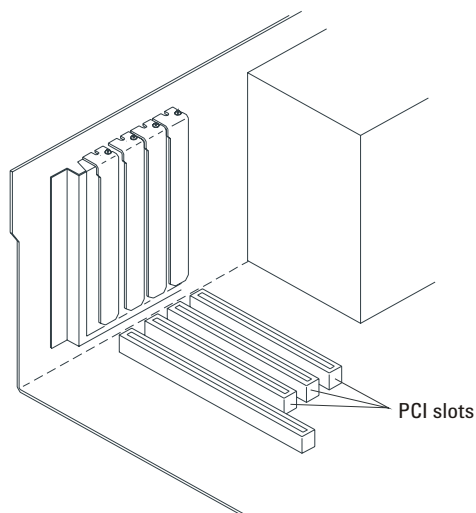

Figure 4-2 **Locating a PCI bus Expansion Slot.**
2. Locate an unused, unobstructed PCI bus expansion slot (Figure 4-2) that supports bus mastering. (PCI slots are usually white or ivory.) See your computer documentation to determine if the PCI slot supports bus mastering.